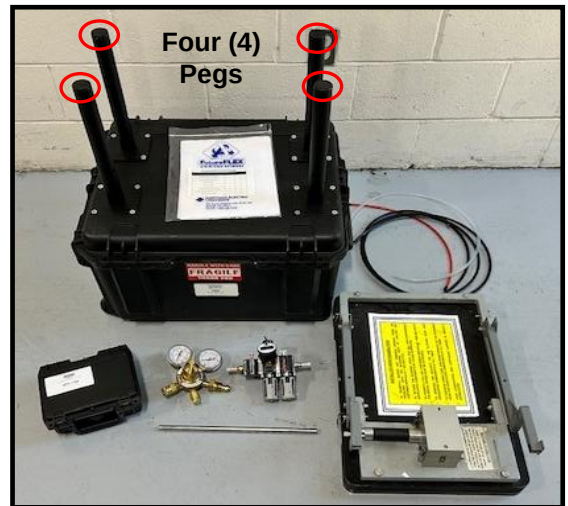

Figure 6
6.6 Manually screw-in each of the 4 pegs into the predesignated threaded holes located on the Transit Case lid. Set the Payoff Stand (Blowing Head Assembly) onto the 4 pegs located on top of the Transit Case to create a conveniently elevated work platform. **See Fig. 6**